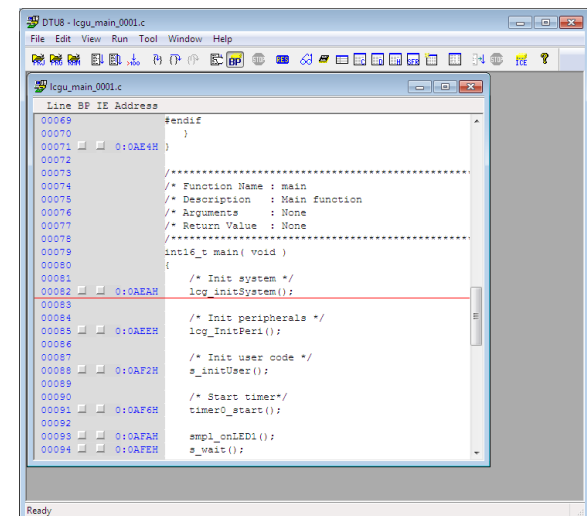

Figure 6 The DTU8 debugger
- 5-7. Click the [OK] button when a confirmation dialog box will be displayed that asks the user whether to start debugging. The DTU8 debugger will load the Blink LED Sample Program. After finishing loading, the DTU8 debugger will display a source window as the following Figure 6.